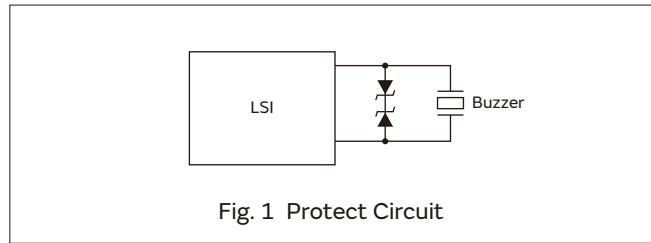

Fig. 1 Protect Circuit
6. Please do not drop the product or apply shock or temperature change to it. If so, the LSI might be destroyed by the charge (surge voltage) generated. Fig.1 shows an example driving circuit using zener diode.